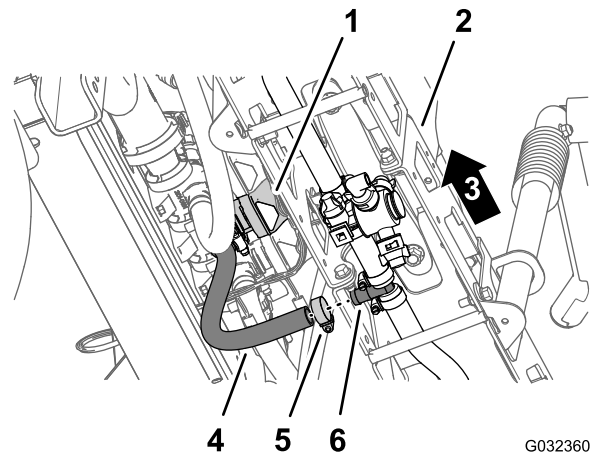

Figure 43
5. Under the center-boom section, remove the hose clamp that secures the supply hose for the boom section to the barbed T-fitting (Figure 43).